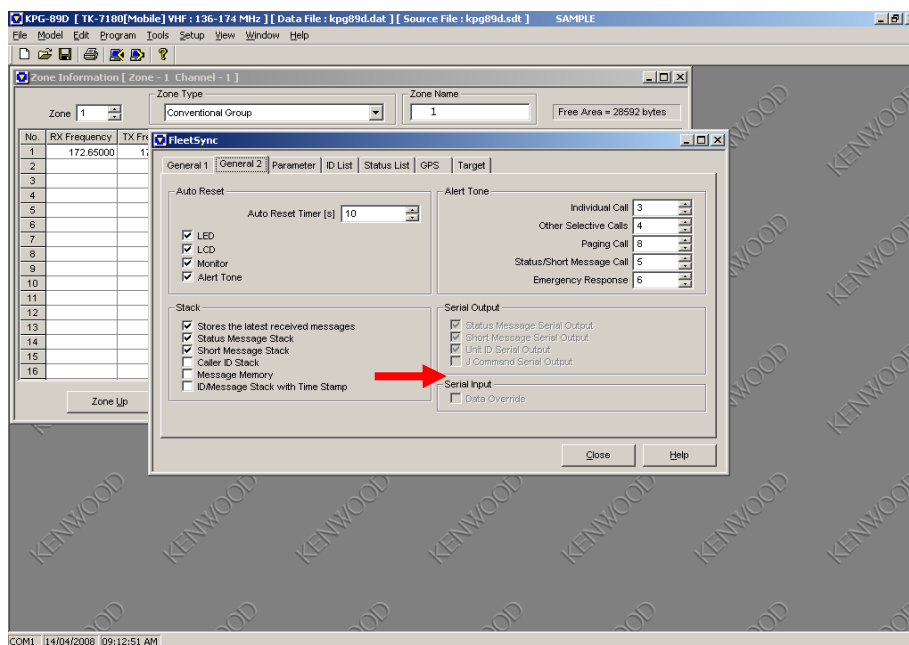

Figure 2
1. Using the Kenwood KPG-89D programming software from the menu (see Figure 2), click on "Edit" / "Fleetsync" / "General 2". Make sure that the *J Command Serial Output* is not checked.